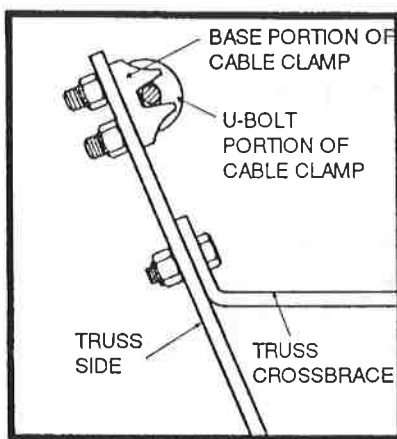
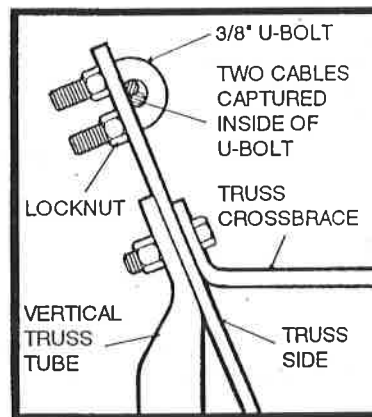
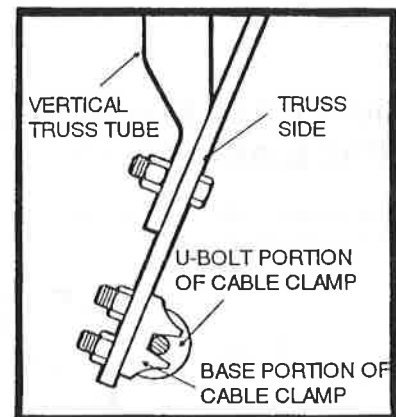

FIG. 34A
FIG. 34B
FIG. 34C
Step 9. Attach the cables to the truss sides. On the upper truss, use 3/8" cable clamps to fasten the cables to truss sides. See Figure 34A. On the main truss, use a 3/8" u-bolt and two locknuts to hold two cables to each truss side. See Figure 34B. On the undertruss, use 3/8" cable clamps. See Figure 34C.